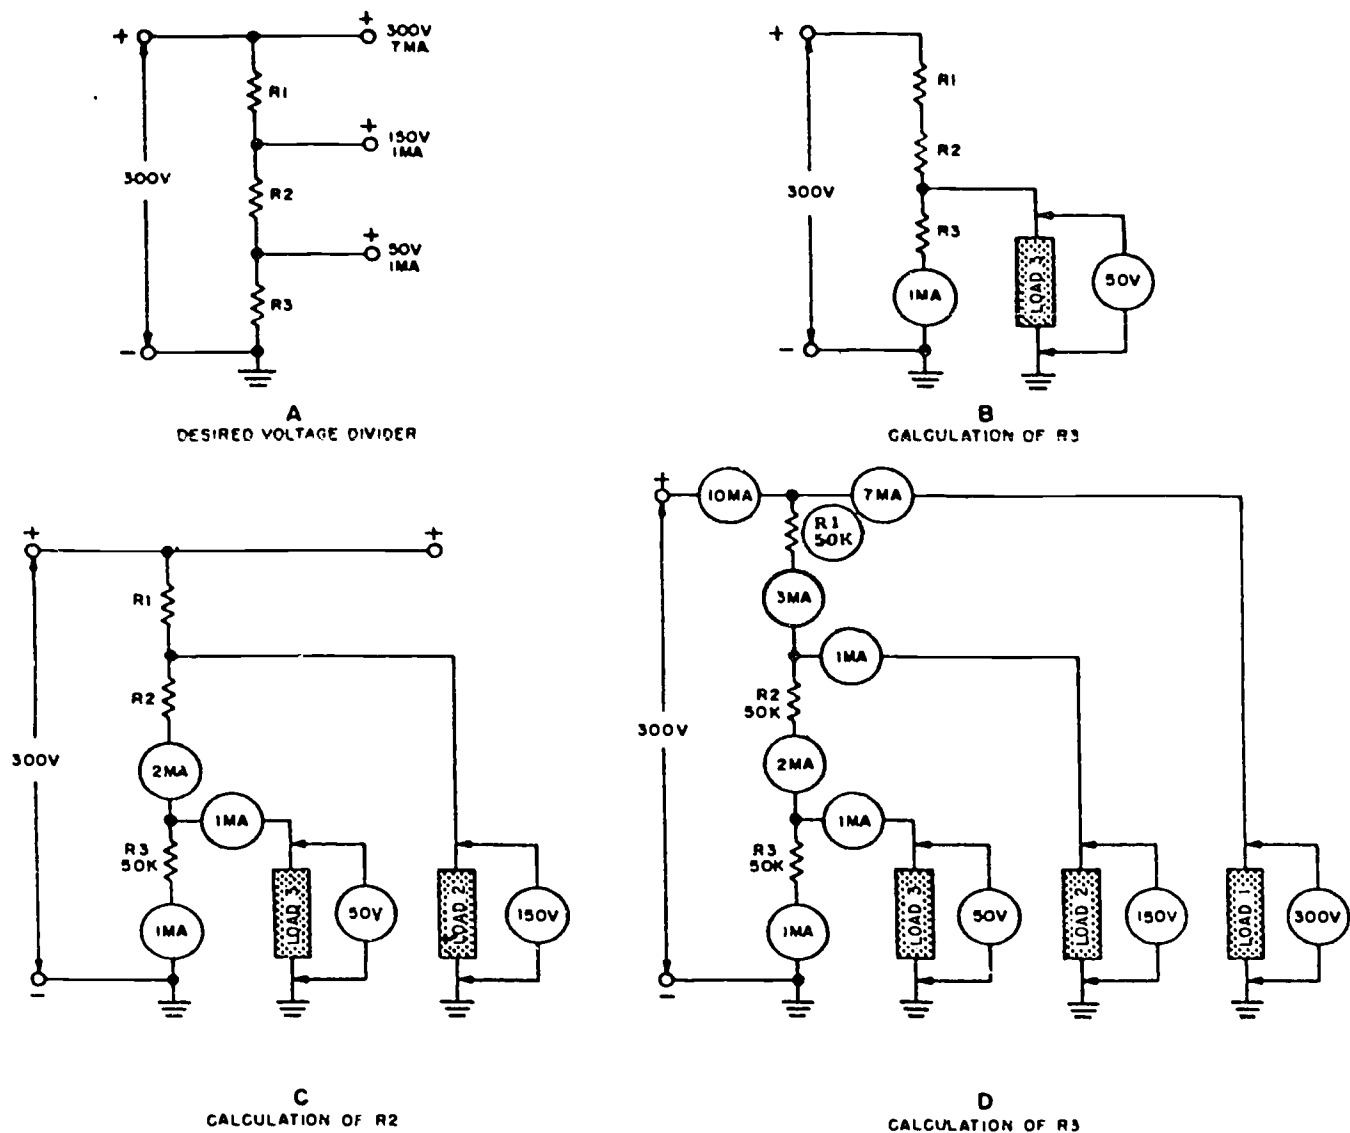

Figure 6-45. Individual steps in the calculation of a voltage divider.
These requirements are shown in part A of figure 6-45.
Your next step is to calculate the value of voltage divider resistor R3. In this connection, refer to part B of figure 6-45. You can determine this value very simply by means of Ohm's law, since the voltage across this resistor is known to be the voltage across load 3. Here is the calculation:
The next resistor in the voltage divider is R2, the value of which you calculate on the basis of the voltage drop across R2 and the total current through R2. The voltage across this resistor is the desired voltage at this tap less the voltage dropped across resistor R3. This means that $E_{R2} = E_{\text{load 2}} - E_{\text{load 3}}$, which equals $150 - 50$, or 100 volts. A consideration of the current through the resistor (refer to part C of fig. 6-45) will show you that the bleeder current, in conjunction with the current through load 3, is going to flow through R2. The total current through R2
You can find the value of resistor R_1 by a process similar to the one you used to find the value of R_2 . Part C of figure 6-45 shows that the current through R_3 will consist of the currents through load 3 and load 2, plus the bleeder current, I_b , or a total of 3 milliamperes. The voltage across this resistor will be the total power supply voltage — the voltage across load 2; that is $E_{R_1} = E_{\text{total}} - E_{\text{load } 2}$, which equals 150 volts. Calculate the resistance value of R_1 by means of Ohm's law like this:
You can make a check confirming the total circuit current by observing that 3 milliamperes flow through the voltage divider to merge with 7 milliamperes flowing through load 1, giving a total of 10 milliamperes, the original specified current; refer here to part D of figure 6-45.
2. Refer to figure 6-45. If load 3 is 60 volts at 2 milliamperes, load 2 is 150 volts at 1 milliampere, and load 1 is 300 volts at 6 milliamperes, what are the values of the following circuit parameters?